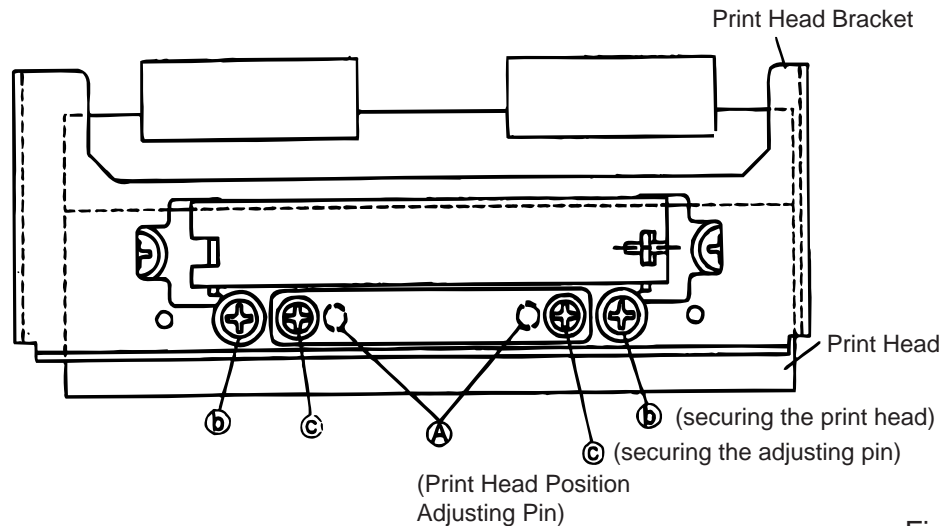

Fig. 2-16
1. *NEVER* remove the four screws painted red fixing the right plate and reinforcing plate. (See Fig. 2-16)